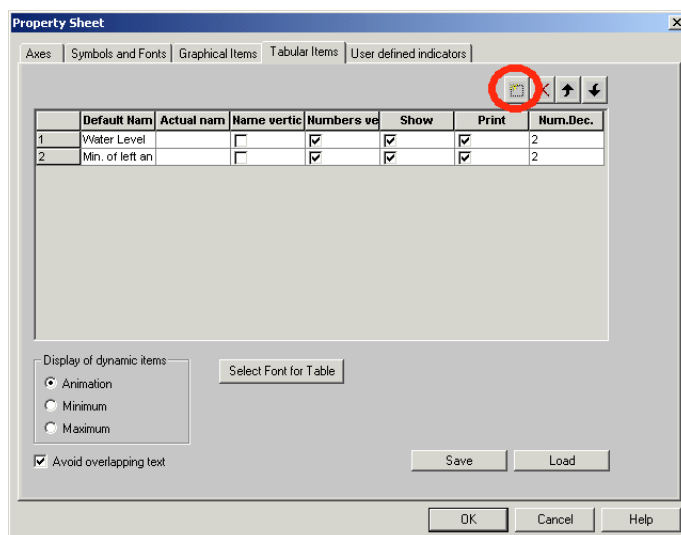

Figure 12.26 Longitudinal Profile Options Menu –Tabular Items
5. Select the “Insert” tool (circled in Figure 12.26) and explore the dynamic and static options available to you. Try displaying various items and observing how the LPW is updated.